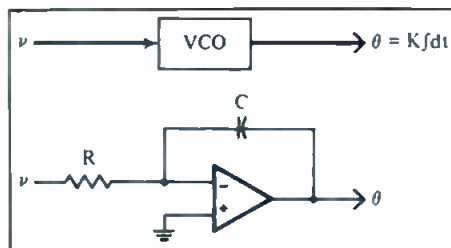

Figure 1. A VCO (top) and a circuit model.
- (1) $\text{Freq} = k \times v$
- (2) $y(t) = \sin([kv]t + \theta)$
- (3) $\theta = kfdt$; $y = \sin(\theta)$.
Of these we will use only the first part of equation (3). This definition is the best for our purposes because the variables in the description are the input voltage to the VCO and the output phase. Remember, we are considering the phase variable in the system, not the actual signal. Equation (3) is very simple when expressed in words. It says that for any constant input voltage, the phase will be a ramp whose slope is proportional to that input voltage. The scale factor k is an arbitrary constant determined by the particular VCO being used. Why have we made this trivial issue appear to be important? The answer is that equation (3) is a very primitive filter. The integral means that, in circuit terms, the two variables can be simulated by an integrator. The circuit model of FIGURE 1 has the identical characteristics as that of a VCO using the phase variable! We can thus say that a VCO is really a simple op-amp integrator.